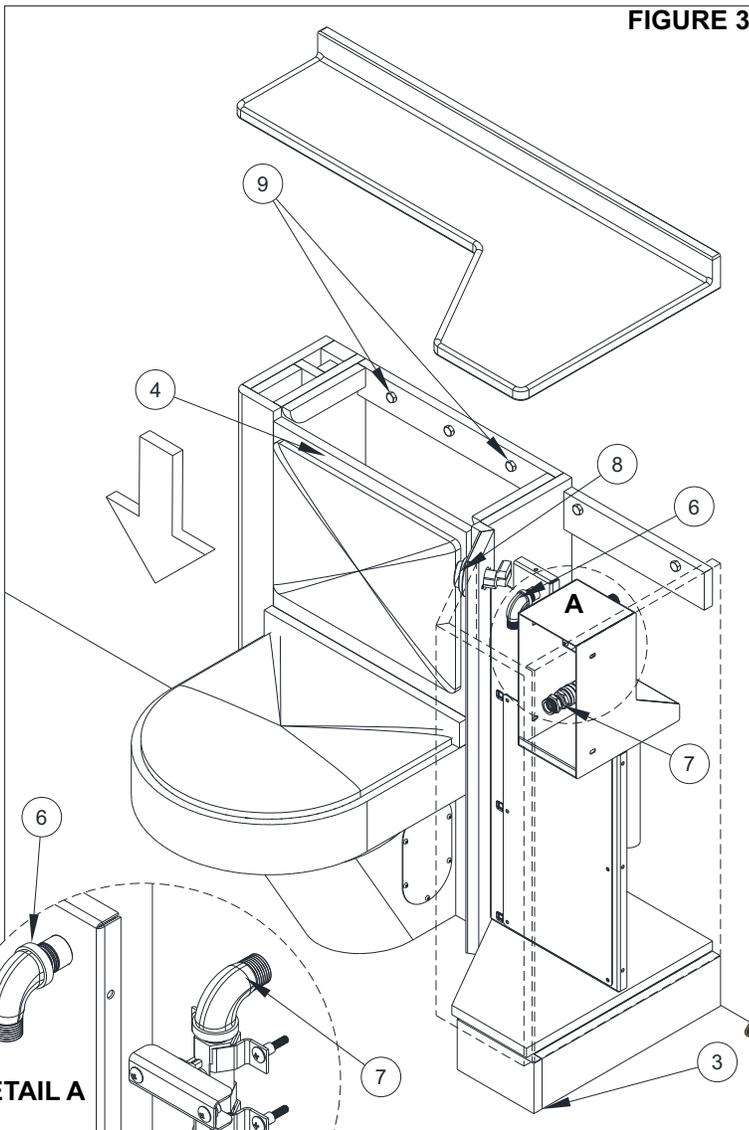

FIGURE 3
- B. Remove Countertop [5]. **Figure 3.**
- C. Lower Cabinet assembly [4] over the Bottom Supports attaching them to the cabinet assembly as required. **Figure 3.**
- D. Make sure Cabinet is square and straight prior to mounting to the wall using Mounting Hardware [9] (By Others). **Figure 3.**
- FCI Infectious Control Valve**Figure 3 & Detail A.**